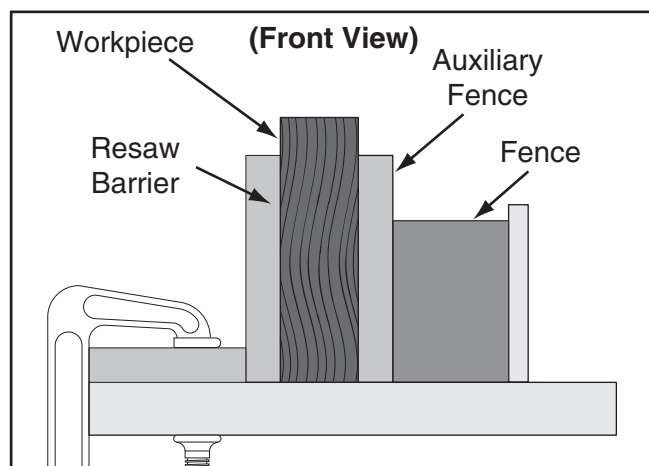

Figure 88. Ideal resaw workpiece setup.
5. Place the workpiece against the auxiliary fence and slide the resaw barrier against the workpiece, as shown in **Figure 88**. Now clamp the resaw barrier to the table at both ends.